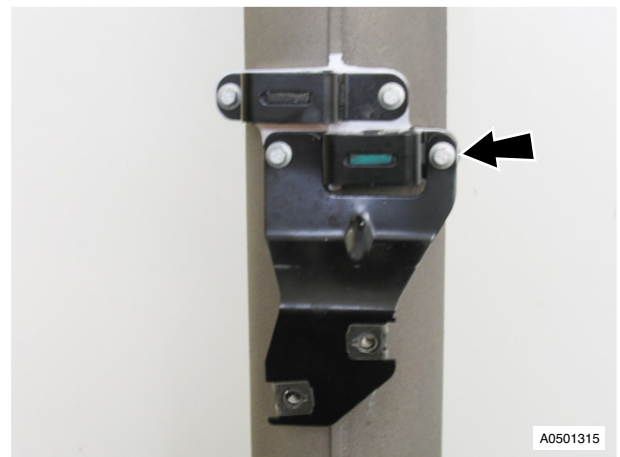

Fig. 1
- Remove exhaust mountings (bolts x4) (see Fig. 1).